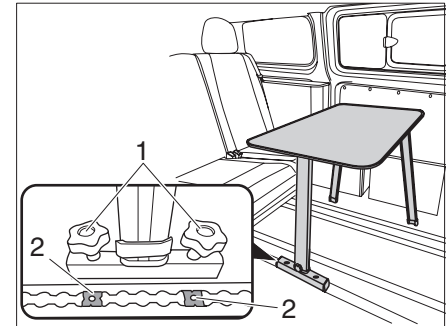

Fig. 50 Table in assembled position
- Place the table foot using the slot nuts (Fig. 50/2).
- Screw 2 toggle screws (Fig. 50/1) into the slot nuts (Fig. 50/1).